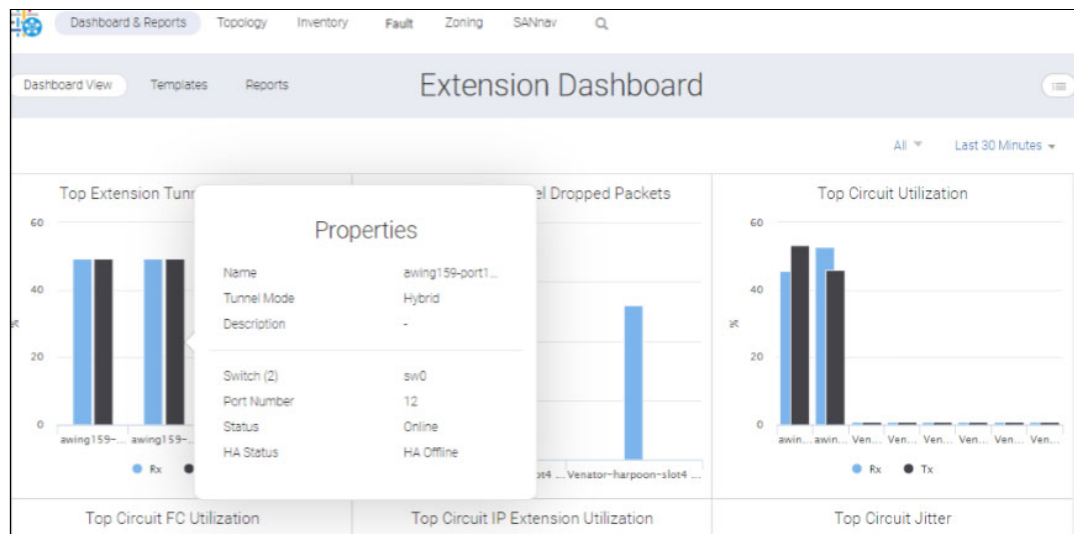

Figure 9-25 Properties of a tunnel
- If you want to display the properties of a tunnel or circuit, click a bar in one of the graphs, and then select **Show Properties** from the list. This displays a pop-up list with details about the tunnel or circuit. Figure 9-25 shows the properties of a tunnel.